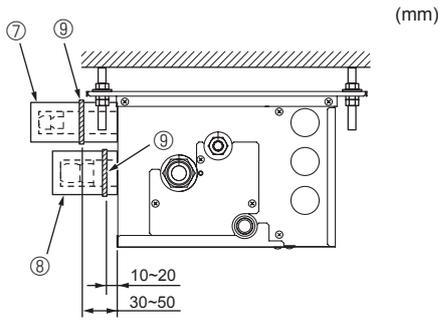

Fig. 7-4
- ⓕ Band ⑨
- ⓖ Pipe covers ⑦ ⑧ ⑤ ⑥
► Use the following procedures for indoor connection part which indoor unit is not connected. (Fig. 7-4)
- (1) In order to prevent refrigerant leaks, make sure that the flare nuts are tightened according to the specified torques* in Table 3.
- (2) In order to prevent condensation, install the pipe covers ⑦ ⑧ and fasten them with the supplied bands ⑨.